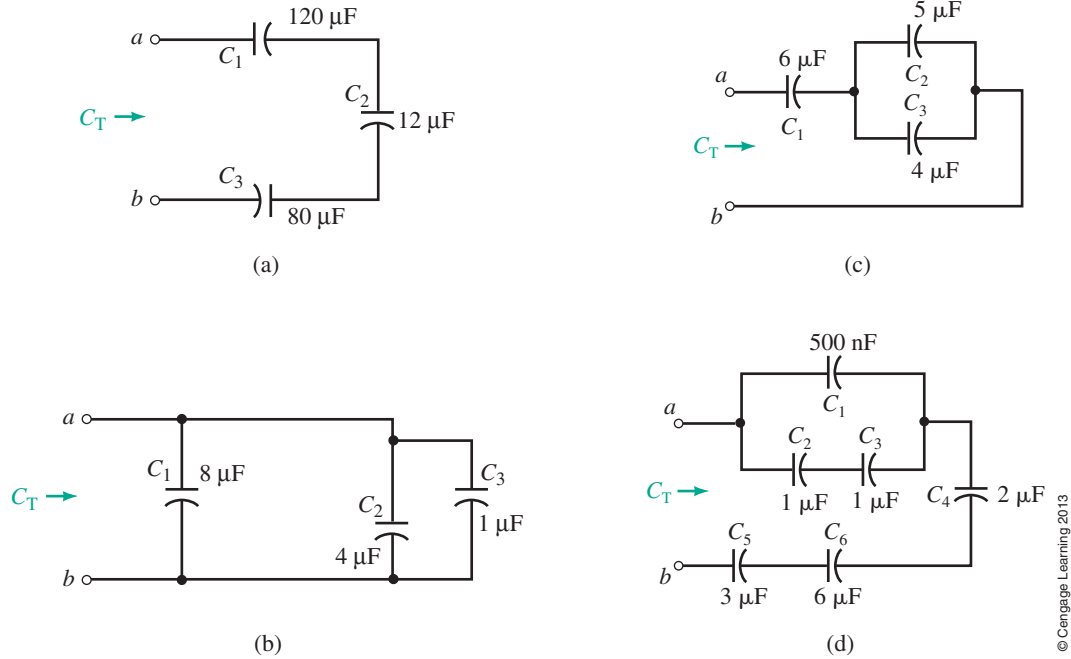

FIGURE 10-33
37. For Figures 10-33(c) and (d), find the voltage on each capacitor if 100 V is applied to terminals $a-b$.